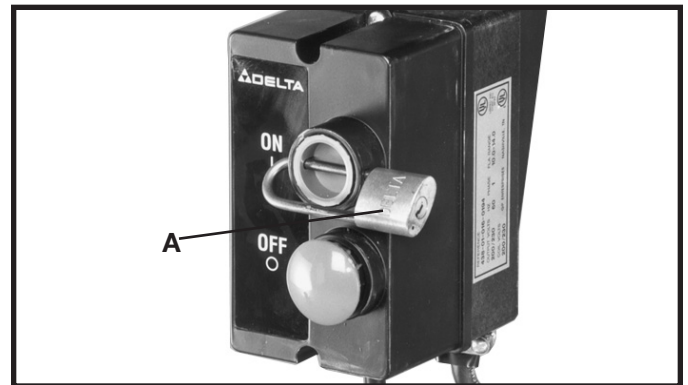

Fig. 40
IMPORTANT: When the machine is not in use, the switch should be locked in the "OFF" position to prevent unauthorized use, using a padlock (A) Fig. 40 with a 3/16" diameter shackle. **NOTE: GPE switch shown.**